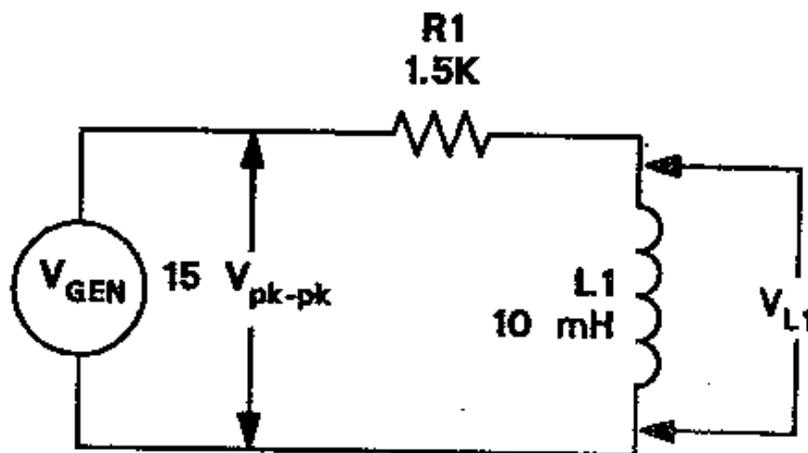

Figure 2: RL high pass filter
1. Locate the HIGH PASS FILTER circuit block on the AC 2 FUNDAMENTALS circuit board. Connect the RL high pass circuit as shown in Figure 2. Turn on the power sources.
2. From the values given in Figure 2, calculate f_{CO} [$f_{CO} = R / (2\pi L)$]. Record the result in Table 2-1.